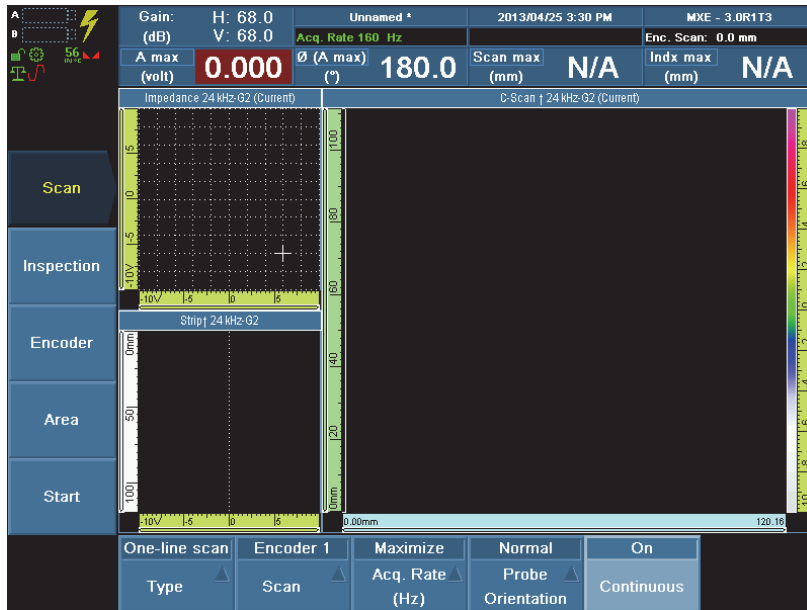

Figure 9-25 Setting the probe encoder to Continuous mode
- Set the encoder to Continuous mode. Select **Scan > Inspection > Continuous = On**, and then press the Accept key to confirm (see Figure 9-25 on page 158).